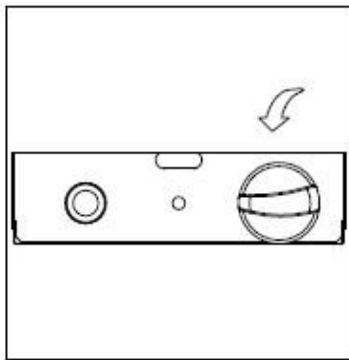

Figure 3
- push in control knob and turn counterclockwise to "PILOT" (Figure 3).